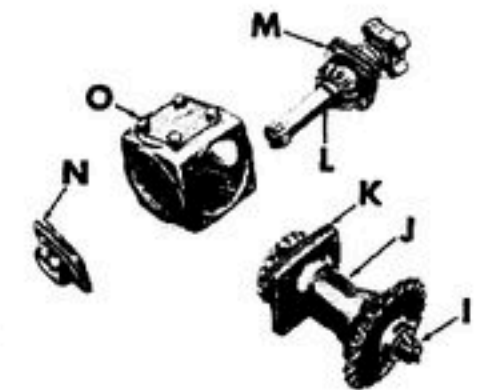

Figure 19
3. Adjust nut "I" (Fig. 19) on the output shaft assembly "J" so there is a slight drag on the bearings.